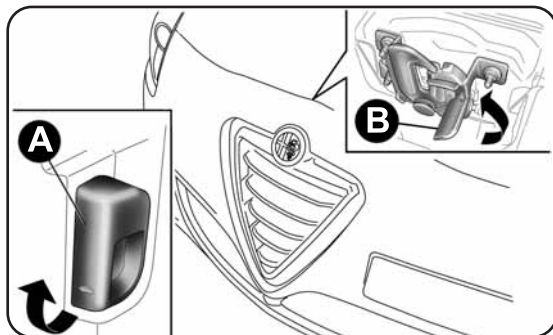

fig. 77
- pull lever A-fig. 77 in the direction indicated by the arrow;